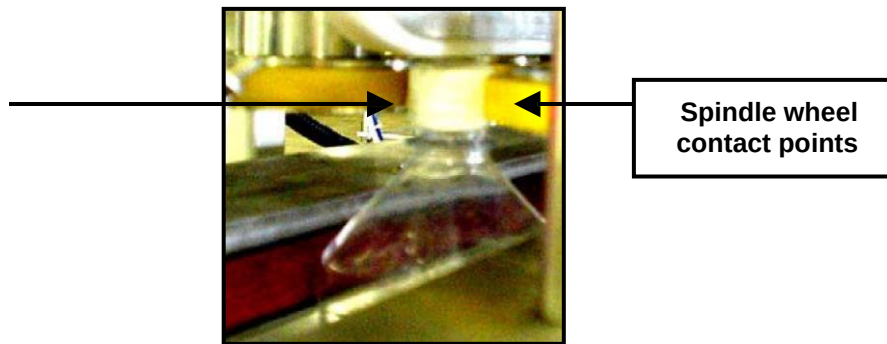

Figure 14. PROPER SPINDLE WHEEL CONTACT WITH CAP.
- 4c.** Spindle wheels must support capped bottle. Refer to Figure 14.